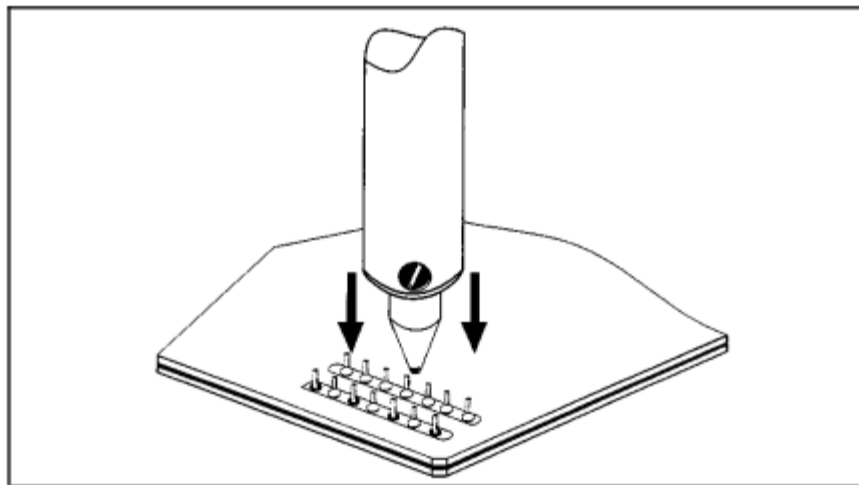

Figure 2 Position Tip
11. Tin tip with solder. (See Figure 2.)